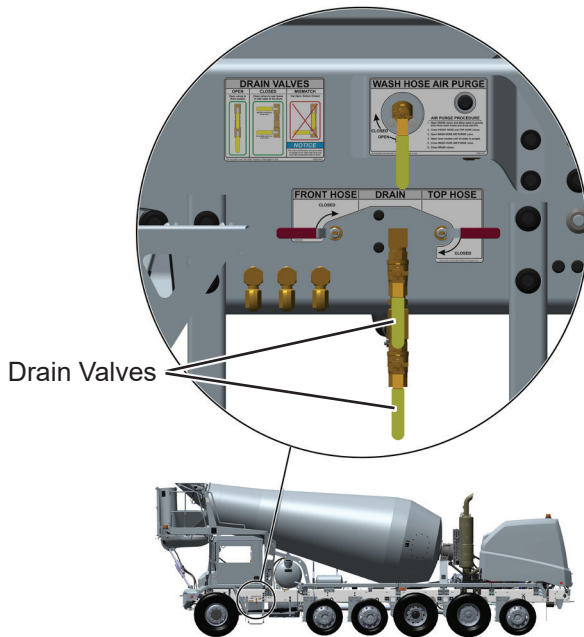

Figure 1
3. Drain the vehicle's water system by opening the drain valves located below the cab. See Figure 1.